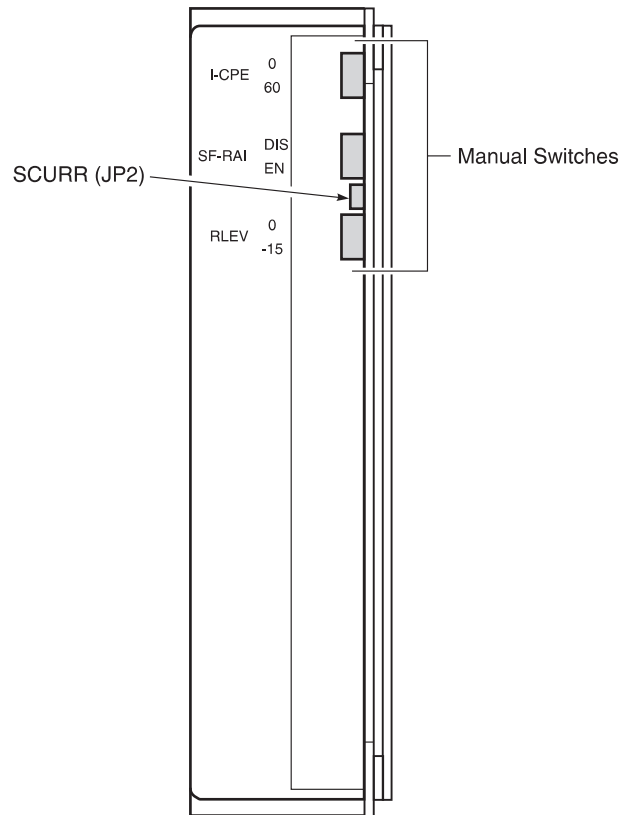

Figure 5. Backplane User Option Locations
- 8.1** The HRU-412 has four user options that must be set before you install the unit into a shelf or enclosure. Three of these options are set by using manual switches and the fourth (sealing current) is set using jumper JP2. These options are located on the backplane of the unit as shown in Figure 5.